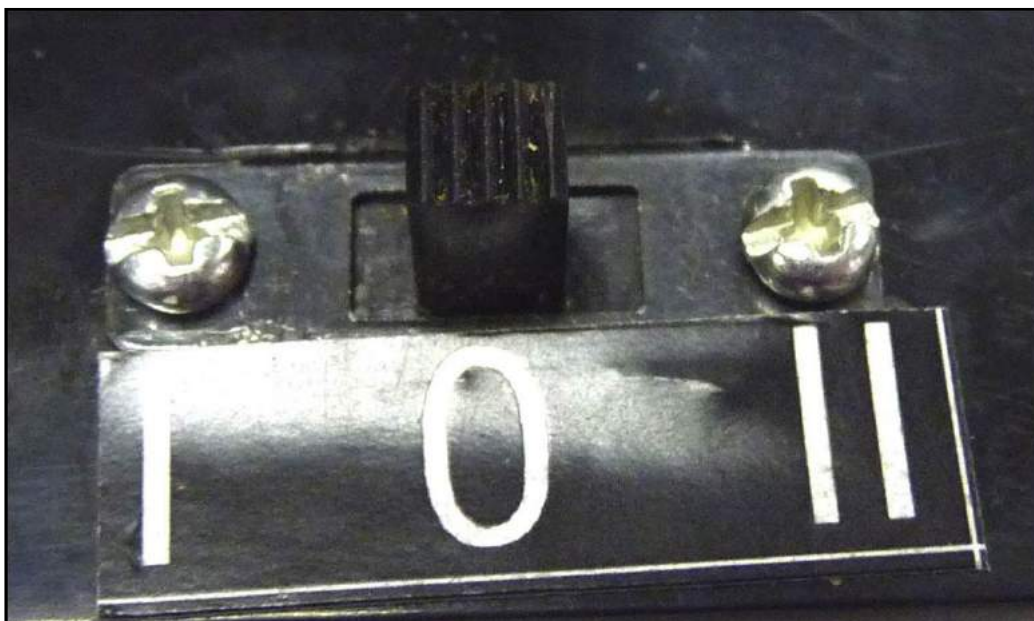

Figure 8. Colorimeter in off position. The colorimeter is in the off position when the switch is directly over the "0."
5. Remove the colorimeter from the box and ensure that the power switch is in the off position. See Figure 8.